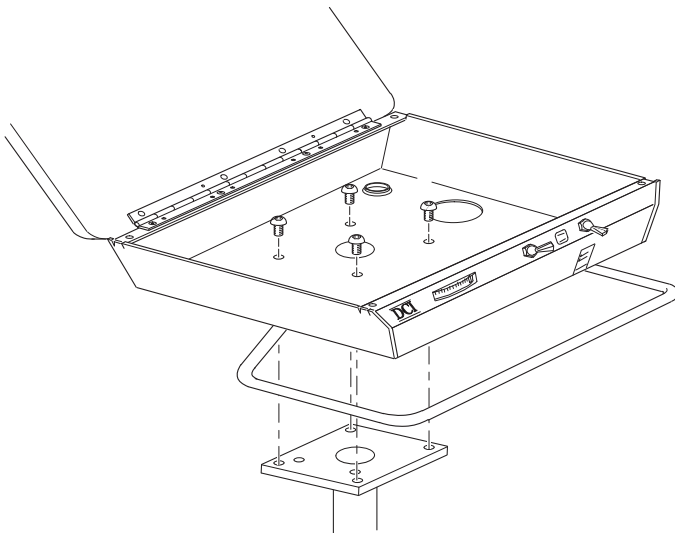

Figure 2
8. To assemble the control head to the cart (see Figure 2):